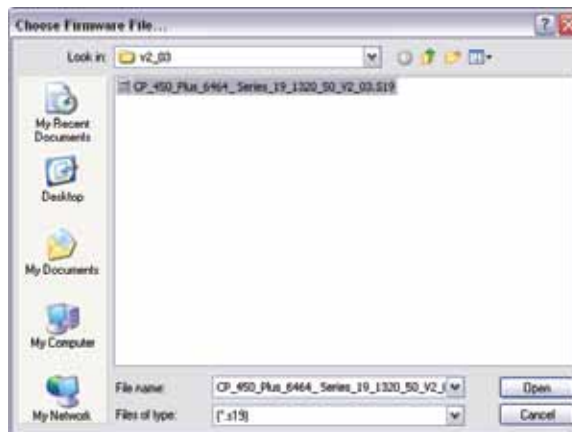

Figure 5-13 — Choose Firmware File window
13. Select the matrix switcher and click **File > Open**. The Choose Firmware File screen appears (figure 5-13).